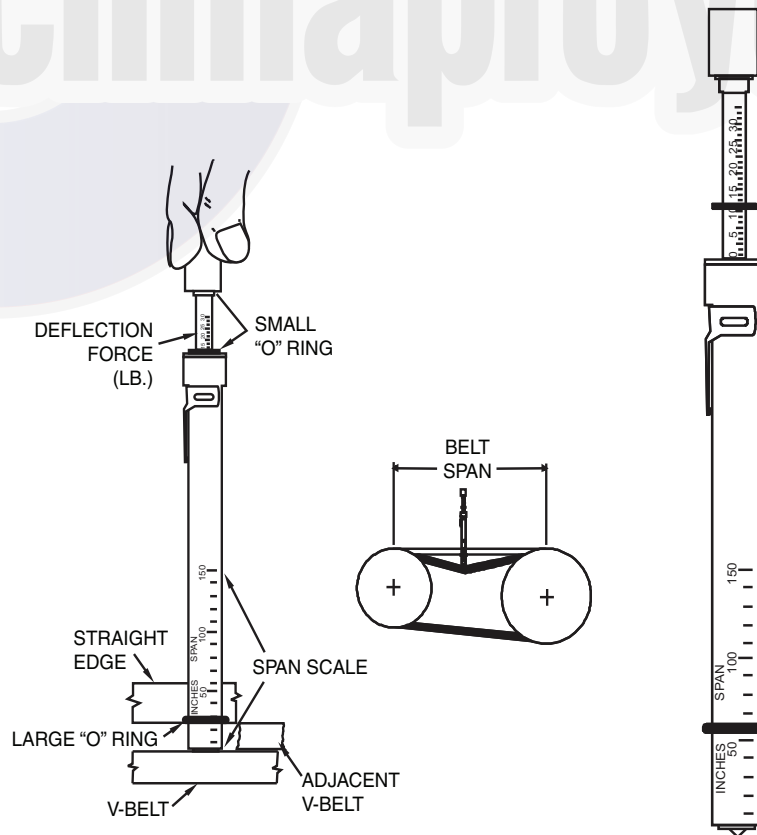

Fig. 11 — Belt Tensioning
1. Measure the belt span (see Fig. 11).